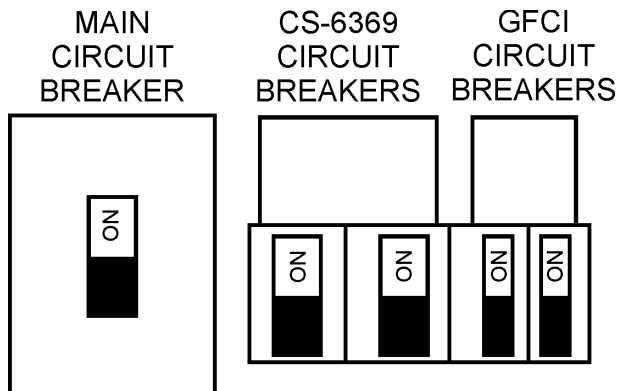

Figure 39. Main, Aux. and GFCI Circuit Breakers (ON)
15. Place the **main, GFCI, and aux.** circuit breakers in the **ON** position (Figure 39).